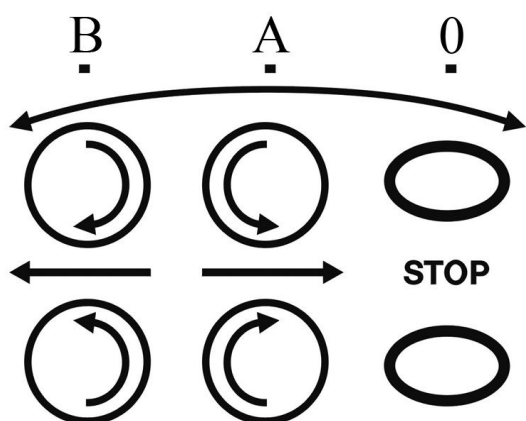

Figure 11
The operation bow must be in the stop position (0) during start (see fig. 11). After start you release the reset handle and pull the operation bow into the middle position (A) and the rollers will turn. The material is now pulled into the machine.